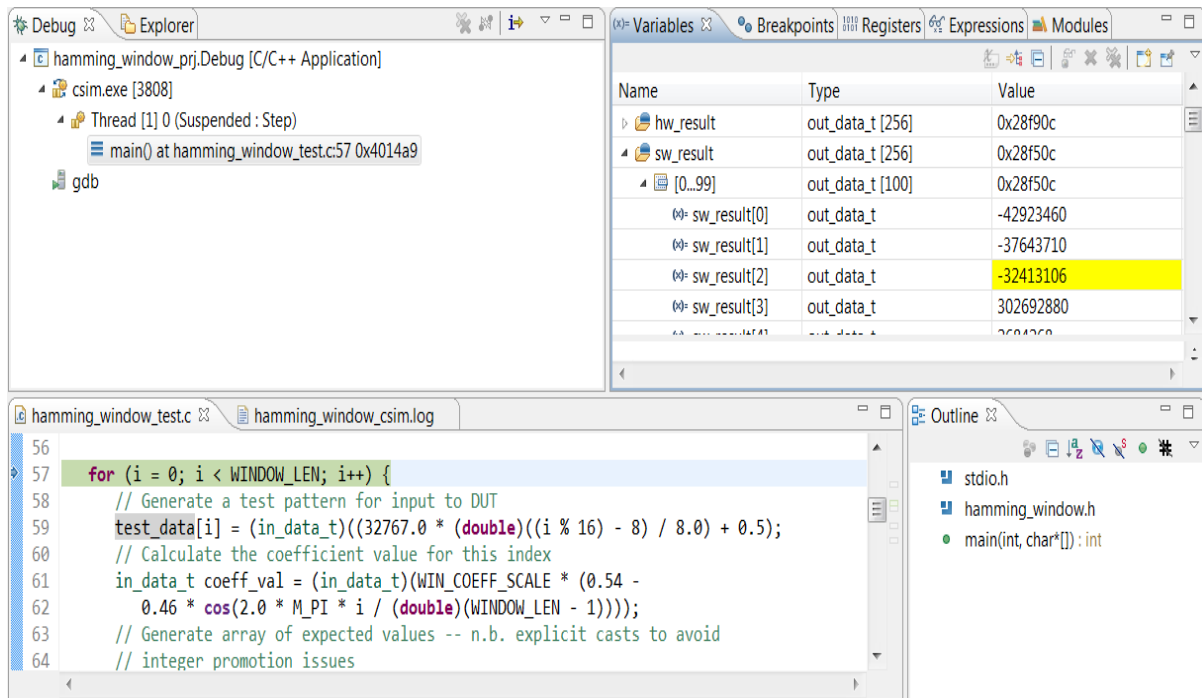

Figure 3-10: Analysis of C Variables
5. Expand the `sw_result` array to the view shown in Figure 3-10.